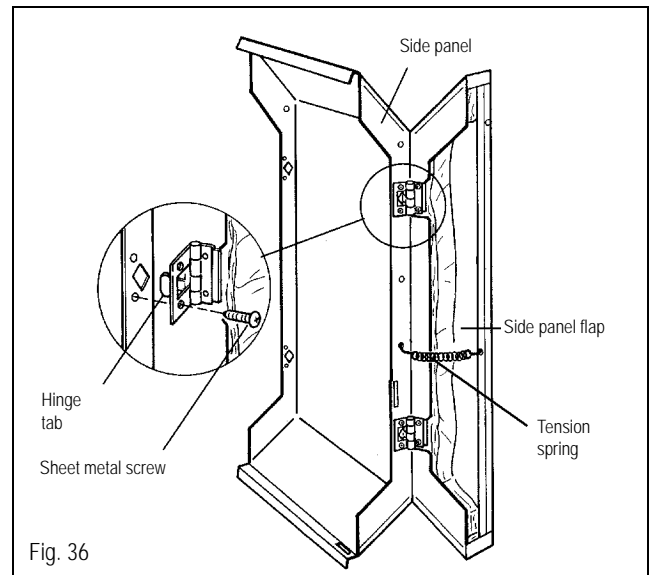

Fig. 36
- Place the hinge tabs of the side panel flap into the knockouts of the front side panel, and fasten these hinges with sheet metal screws (Fig. 36).
- Attach a tension spring to side panel flap as shown (Fig. 36).